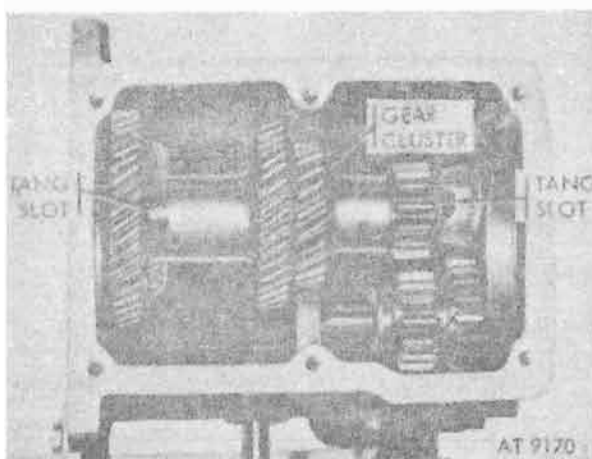

Figure 8-37. Countershaft gear cluster.
- j. Remove countershaft gear cluster by lifting straight up. Note position of the two thrust washer tangs (fig. 8-37) for reference during assembly.
d. Coat the two thrust washers with GAA grease. Install one washer on each end of shaft and gear at bearing face (fig. 8-49). Refer to figures 8-37 and 8-50 for correct placement of thrust washers.